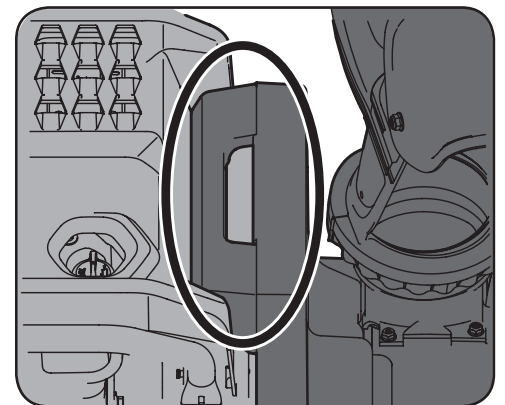

Figure 4-3
2. Tip the FLEX™ Power Base forward, engaging the top mounting tab with the mounting handle on the snow thrower attachment. See Figure 4-3.